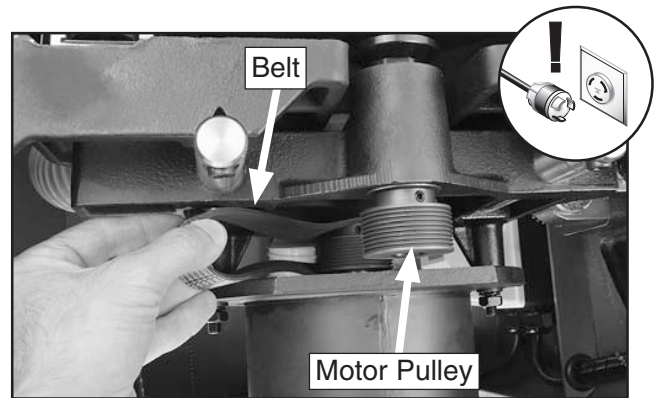

Figure 152. Removing belt (table removed for clarity).
7. Roll the belt off of the upper and lower pulleys, as shown in **Figure 152**. Be careful not to pinch your fingers.